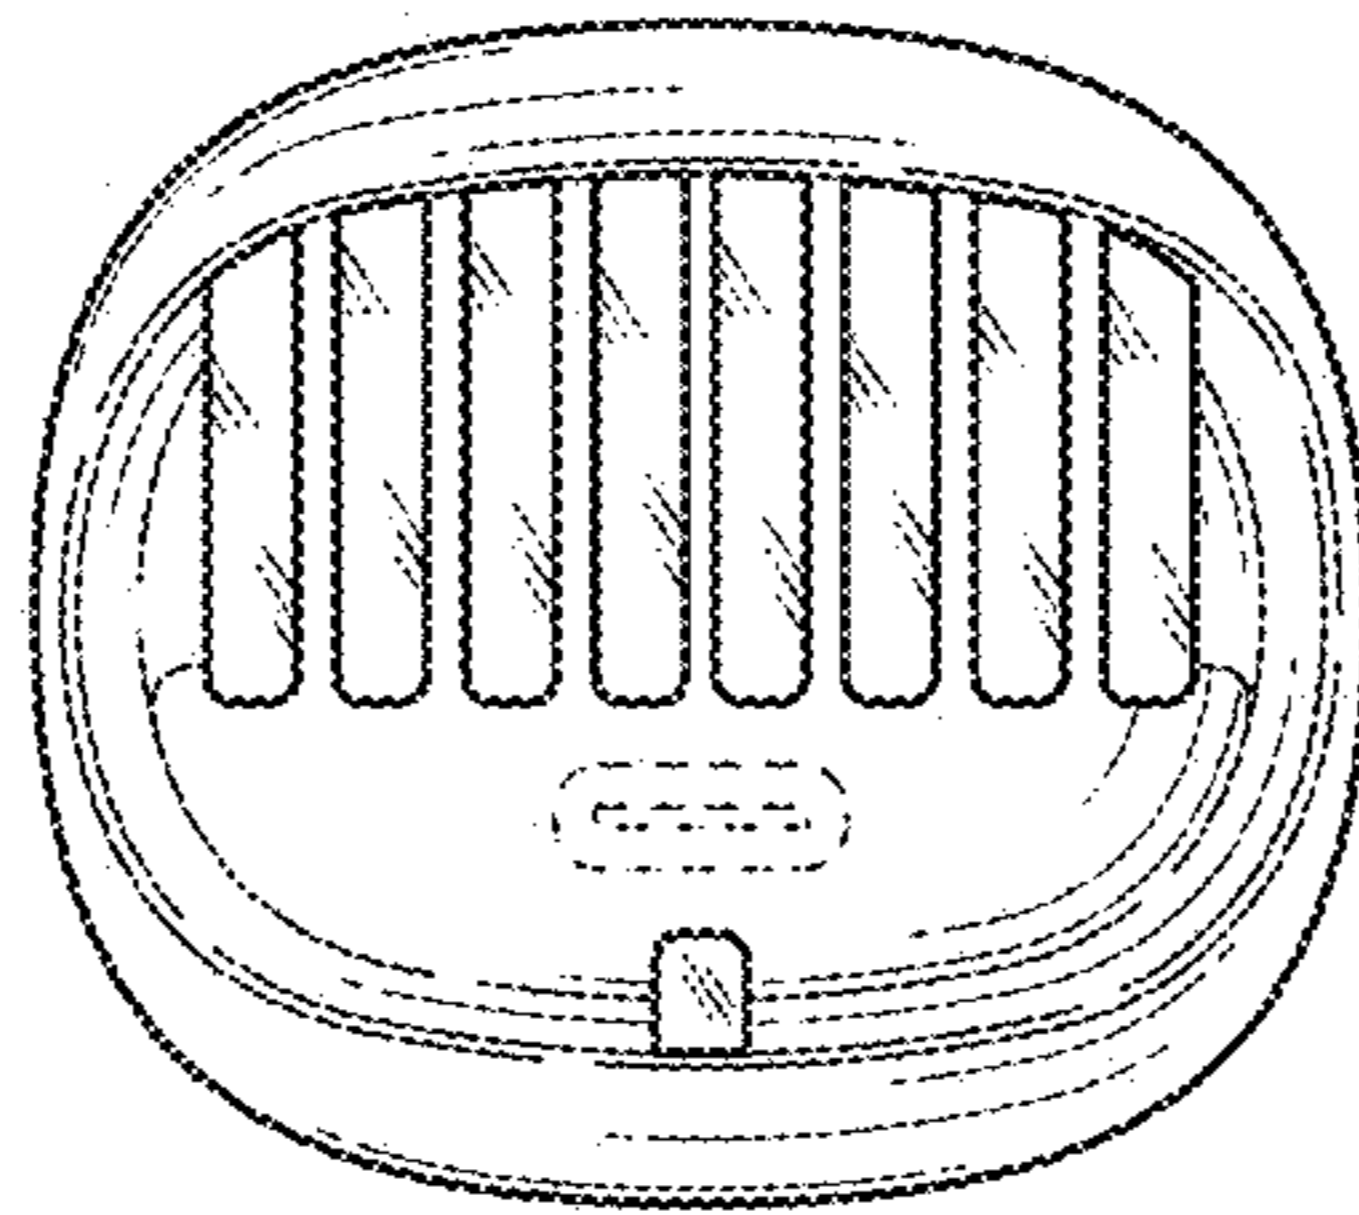

FIG. 6
- FIG. 6 is a top plan view thereof;